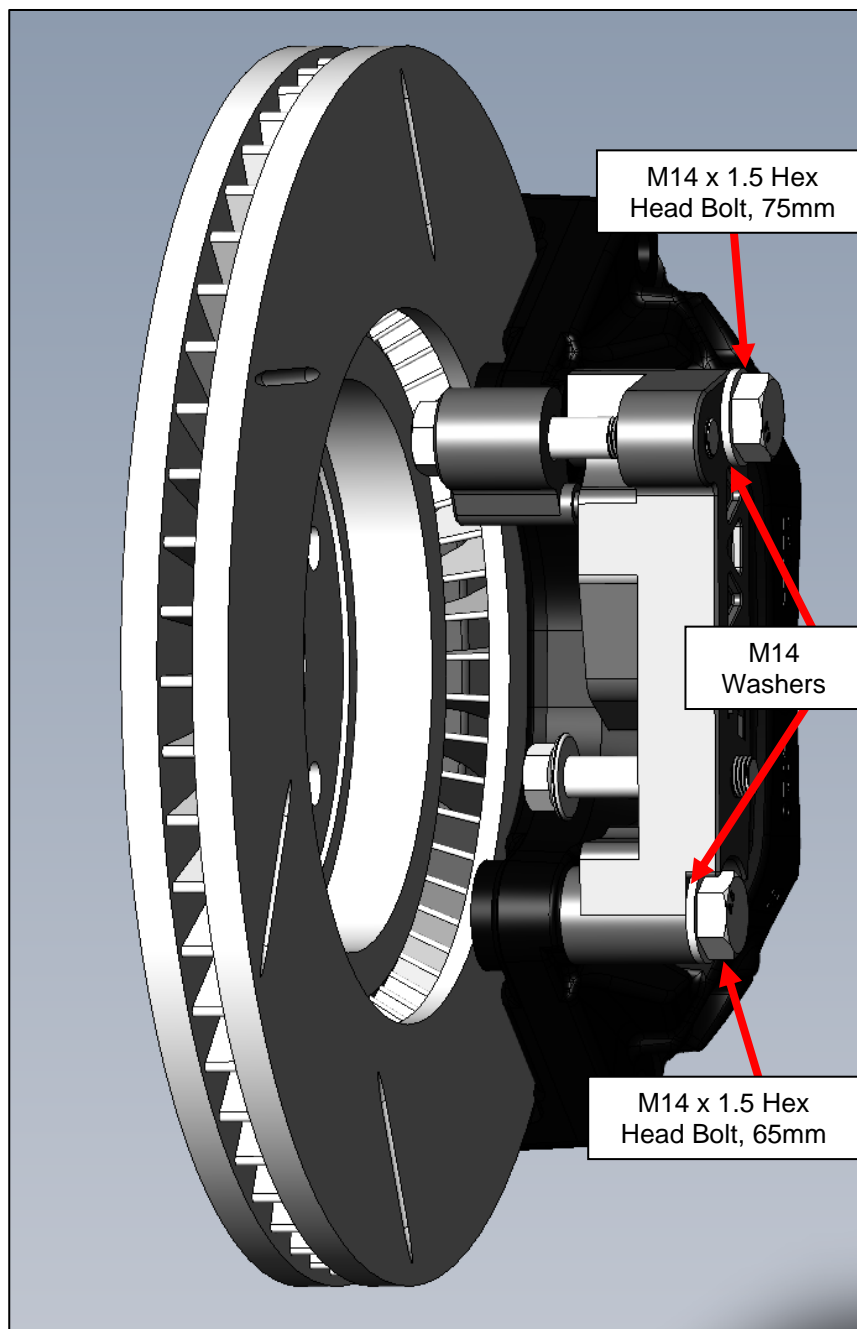

Figure 7
16. Locate the Driver Side Caliper, (1) one M14 x 1.5 Hex Head Bolt, 75mm, (1) one M14 x 1.5 Hex Head Bolt, 65mm and (2) two M14 Washers. Position the Caliper over the Rotor with the mounting points between the Rotor and the Adapter Bracket. Secure the top of the Caliper to the Adapter with the 75mm Bolt and a Washer. Secure the bottom of the Caliper to the Adapter with the 65mm Bolt and a Washer. Torque bolts to **91 ft-lbs.** *Figure 7.*